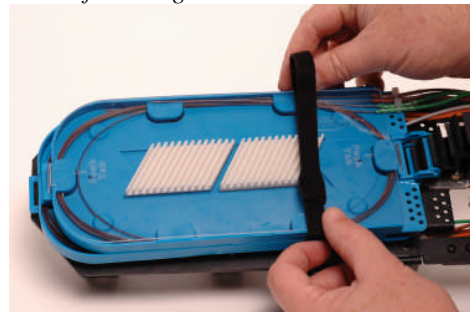

Figure 26
9.1.7 Secure all trays using the Velcro straps supplied. Refer to Figure 26